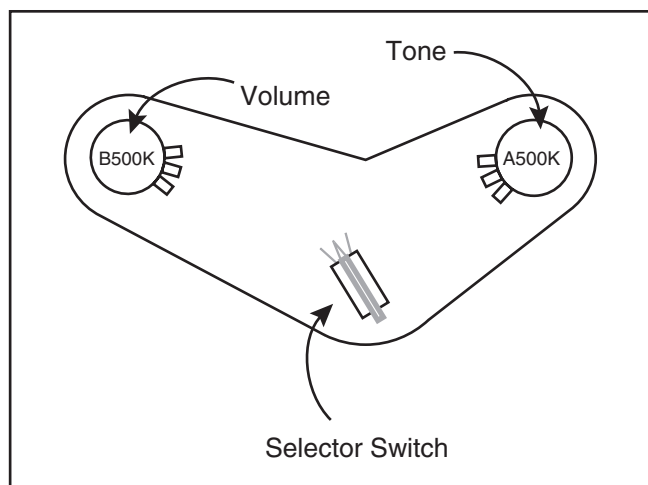

Figure 19. Wiring diagram 1.
1. Place the pots and the selector switch in the electronics cavity as shown in **Figure 19**.